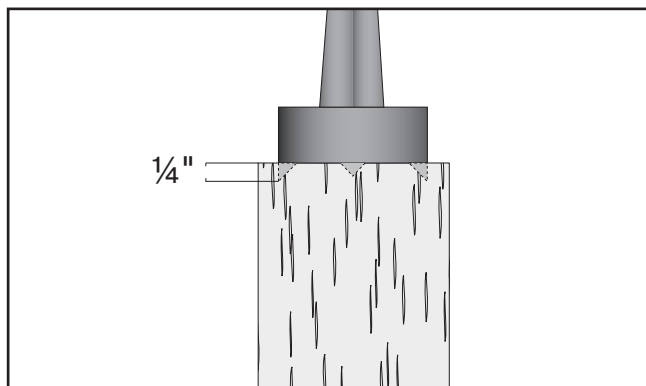

Figure 33. Spur center properly embedded.
5. Making sure the spur center is aligned with the workpiece center you marked earlier, drive the spur center least $\frac{1}{4}$ " into the end of the workpiece (see **Figure 33**).